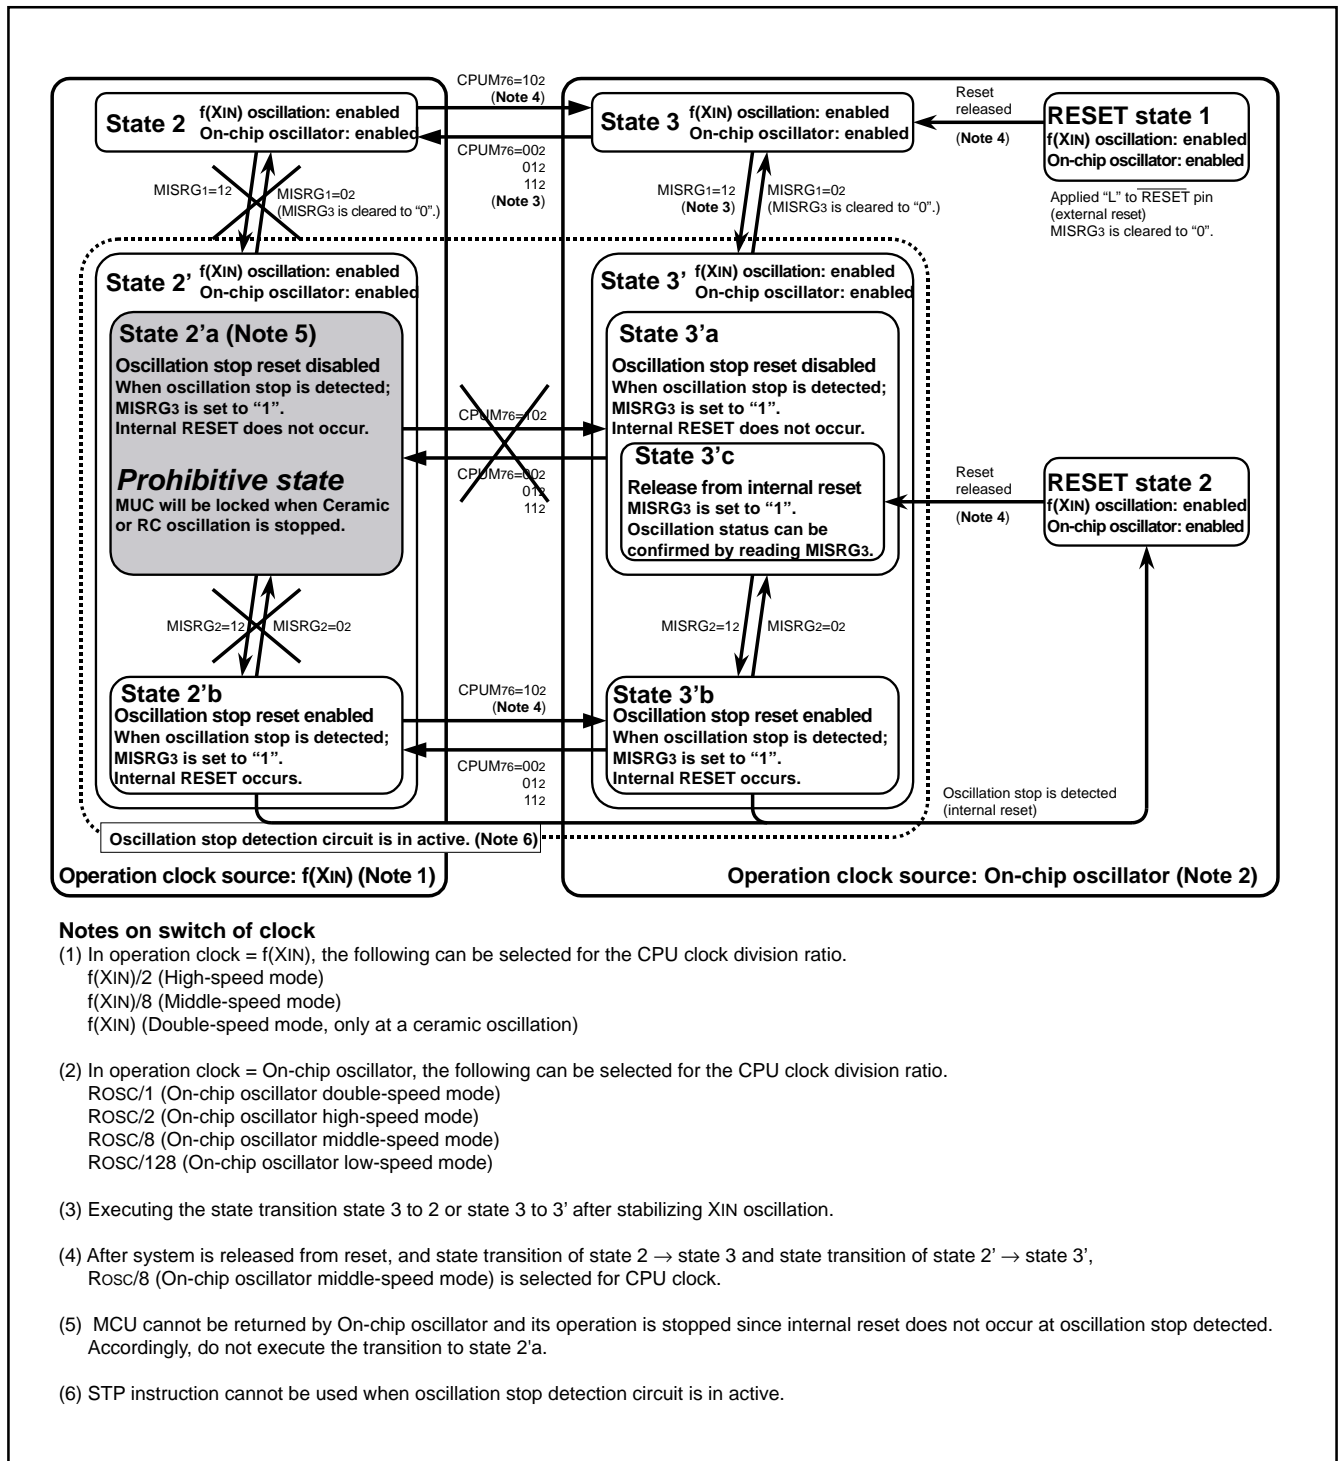

Fig. 80 State transition 2
- Do not execute the transition to "state 2'a" shown in Figure 80 because in this "state 2'a", MCU is stopped without reset even when X_{IN} oscillation is stopped.
- (1) External reset
- (2) Write "0" data to the ceramic or RC oscillation stop detection function active bit.